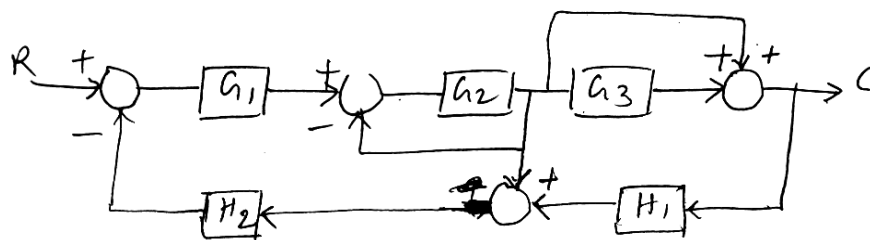

Fig Q.6(a)
- 6 a. Find C/R for the system shown in the Fig. Q.6(a) using block diagram reduction, 10